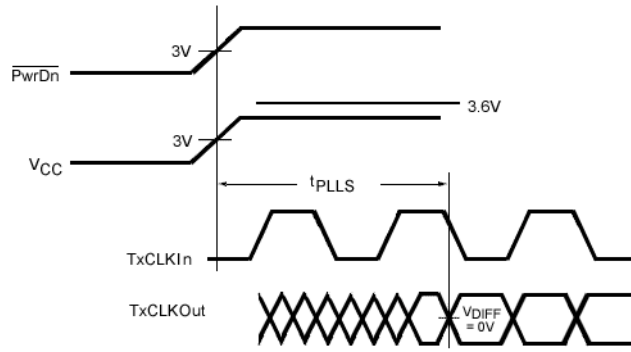

FIGURE 11. Transmitter Phase Lock Loop Set Time
- Switching input data TxIn0 to TxIn20 at 0.5 MHz, and the input clock is shifted to left  $-3\text{ns}$  and to the right  $+3\text{ns}$  when data is HIGH (by switching between CLK1 and CLK2 in Figure 11)